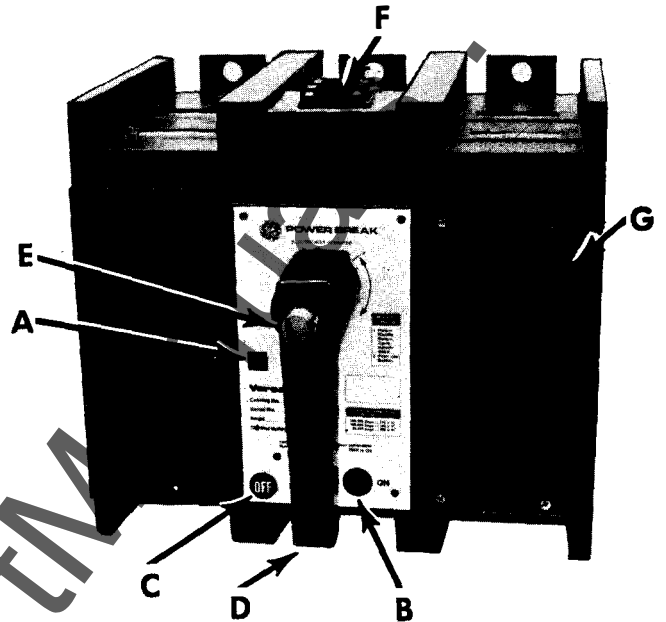

Figure 1
- b) Mechanism may be manually charged by pushing in the lockable manual charge engagement button (Figure 1) until it is flush with the handle surface, then rotating handle 120° counterclockwise to CHARGE, followed by 120° clockwise rotation to release the engagement system. Handle will not turn breaker ON.
- b) Breaker contacts may be closed manually by pushing the "ON" button (Figure 1) on the breaker escutcheon.
- b) Breaker contacts may be opened manually by pushing the "OFF" button (Figure 1).